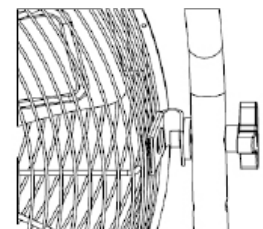

FIGURE 4
6. Place rubber flanges between fan head and mounting frame. Secure fan head to assembly with tilting knobs. (See Figure 4)